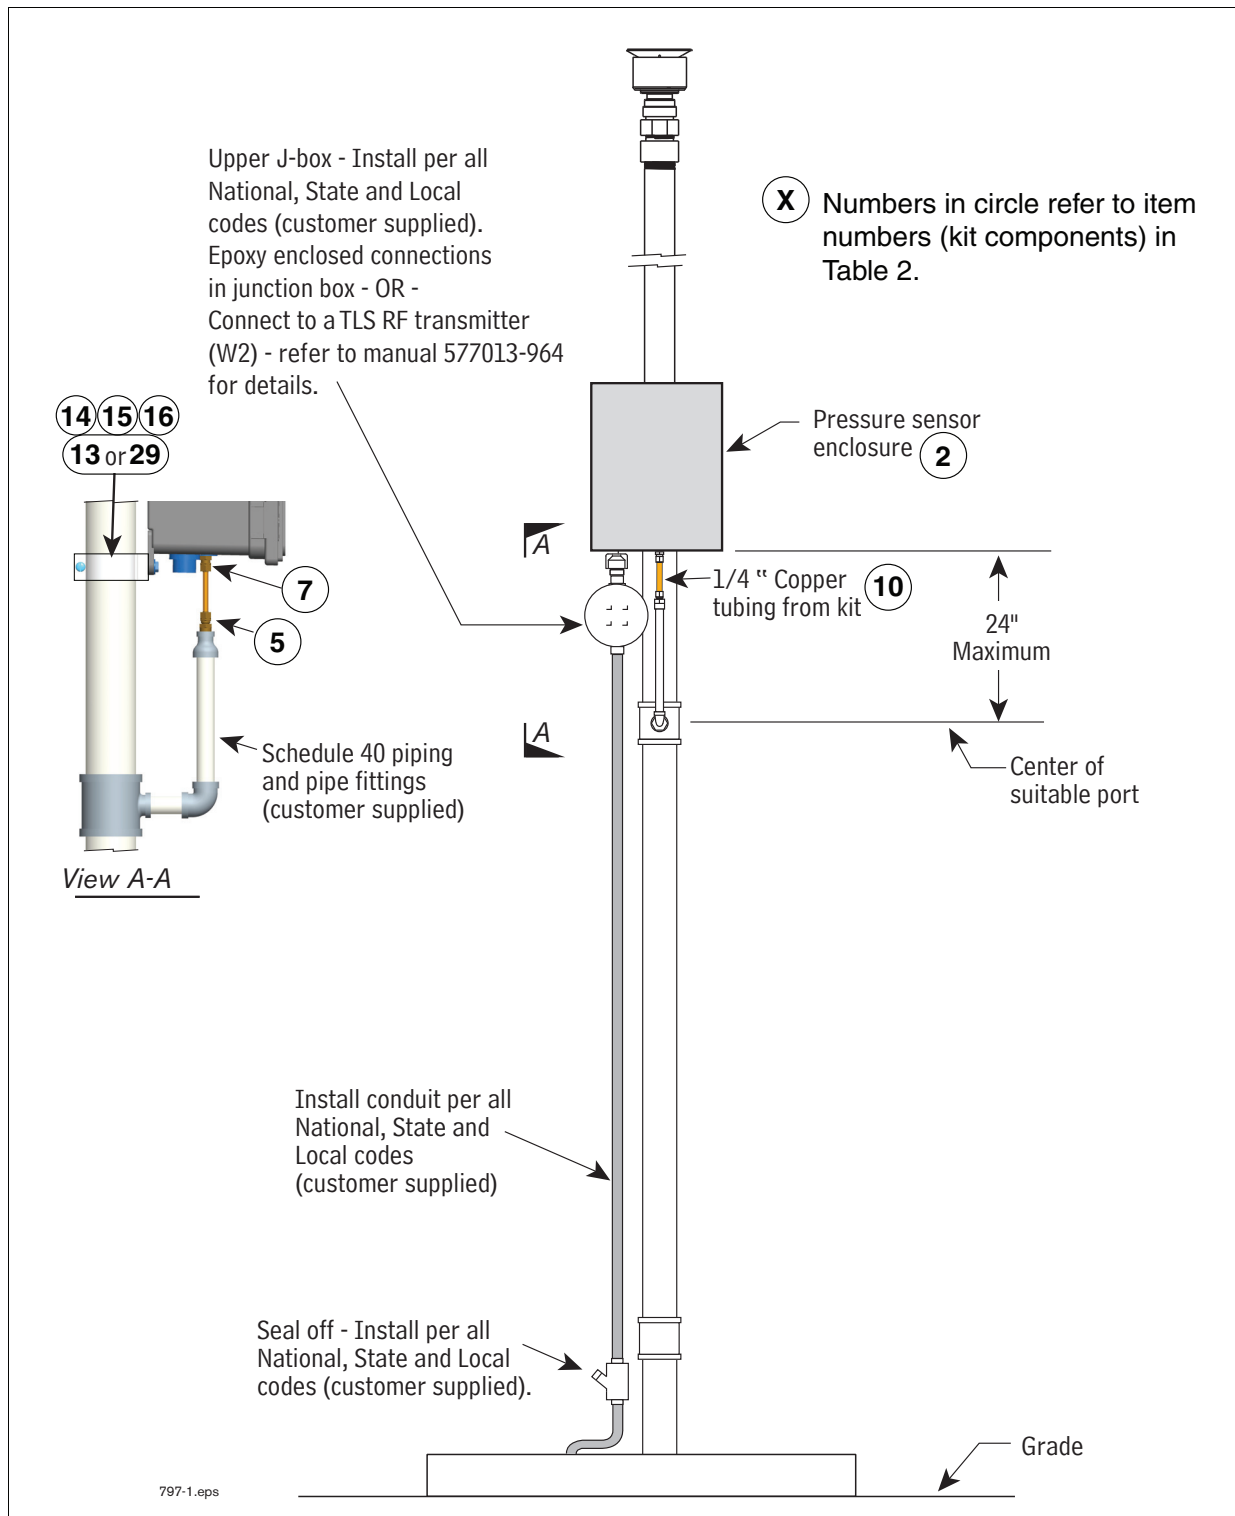

Figure 10. Locating Pressure Sensor Enclosure in Vapor Vent Stack
3. Locate a suitable port in an existing Schedule 40 piping fitting (tee, cross, etc.) or plumb a suitable Schedule 40 pipe fitting (tee, cross, etc.) into the vapor vent stack line (maximum length of copper tubing limited by dimension in Figure 10).
16. Mount the plastic enclosure onto the vapor vent stack or suitable rigid structure ABOVE the vapor vent stack port using two conduit clamps (for 2" or 3" pipe), bolts, nuts, and washers included, or use other customer supplied suitable mounting hardware (Example: Unistrut®). Leave the mounting hardware somewhat loose for later enclosure height adjustment (see Figure 10).
18. Install one 68CA-4-4 male connector (item 5 in Table 2) onto the top of the new pipe (see View A-A, Figure 10).
19. Measure, fabricate, and install 1/4" OD copper tubing (item 10 in Table 2) between the bulkhead union and the male connector. Adjust the enclosure vertically on vent pipe to make sure the copper tube is fully inserted into the bulk head union and male connector.
23. When direct wiring to a TLS console, install 1/2" electrical conduit from the conduit hub in the bottom of the enclosure to the customer supplied weather-proof junction box (see Figure 10). For wireless installations, using the TLS RF, Steps 23 - 27 are not required.
24. Route the cable from the pressure sensor to the junction box under the enclosure. Observing polarity, connect the sensor wiring to the field wiring from console and cap with wire nuts (see Figure 10).